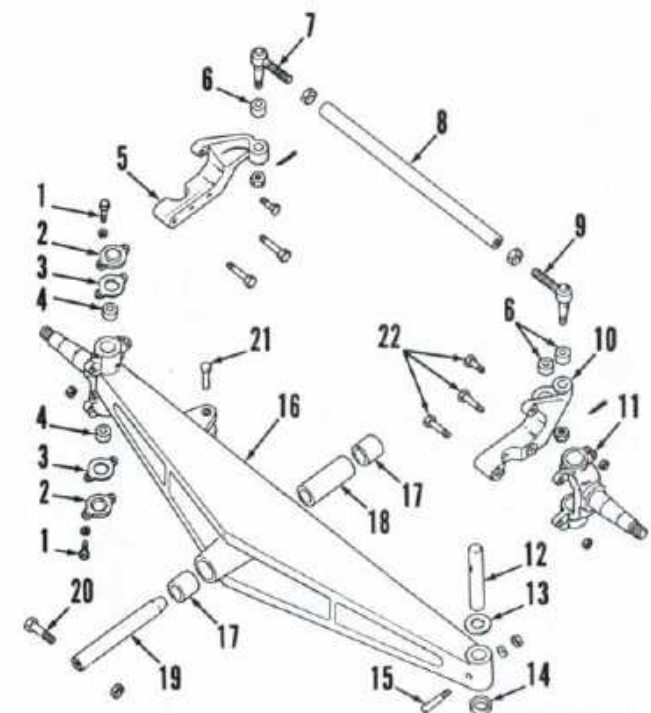
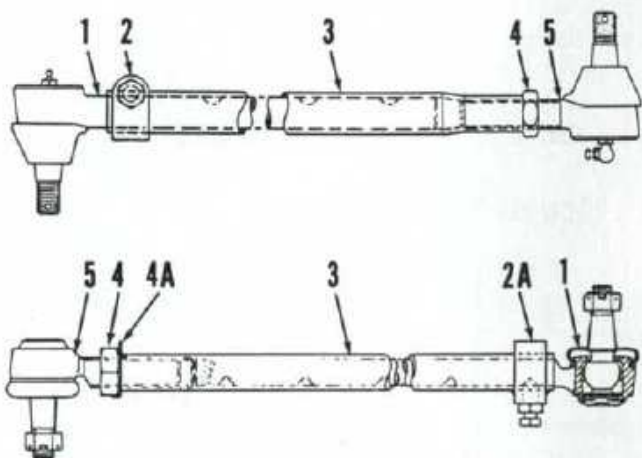

Fig. 6—Exploded view of heavy duty (cast) nonadjustable front axle used on some tractors.
Fig. 7—View showing typical tie rod assemblies used on models equipped with adjustable axles.
**3. R&R SPINDLES.** To remove either spindle (11—Fig. 6), block rear wheels securely and apply park brake. Raise front of tractor and install jack stand under axle main member (16). Unbolt and remove front wheel and hub.
**5. REMOVE AND REINSTALL.** To remove axle main member (16—Fig. 6), block rear wheels securely and apply park brake. If so equipped, remove front weights and weight bracket. Unbolt and remove front cover. Raise front of tractor and support with stands under side rails or oil pan. Remove front wheels. Identify and disconnect steering cylinder hoses at cylinder. Cap or plug all openings immediately to pre-
6. Two types of tie rods used with adjustable axles are shown in Fig. 7. Two tie rods are used on each tractor. Refer to Fig. 6 for tie rod used on models equipped with the nonadjustable cast axle. Removal and disassembly of tie rods on all models is obvious after examination of unit and reference to Figs. 6 and 7.
Front wheel toe-in on all models equipped with adjustable axles should be 3/16-5/16 inch (5-8 mm). To adjust toe-in, remove clamp bolt (2—Fig. 7) or set screw (2A) and loosen jam nut (4). Rotate tube (3)
Front wheel toe-in on all models equipped with the nonadjustable cast axle should be 0-5/32 inch (0-4 mm). To adjust toe-in, refer to Fig. 6 and loosen jam nuts at each end of tube (8). One nut is left hand thread and the other is right hand thread. Rotate tube as required to lengthen or shorten tie rod assembly. Tighten jam nuts and recheck toe-in. Readjust if necessary.